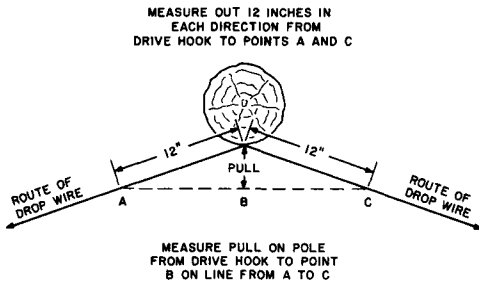

Fig. 3 — Method of Measuring Pull on Pole
2.10 In cases where there is no pull on the pole, where the pull is against the pole, or where the pull away from the pole is less than 4 inches (as defined in Fig. 3), a maximum number of four wires (not spans) may be attached